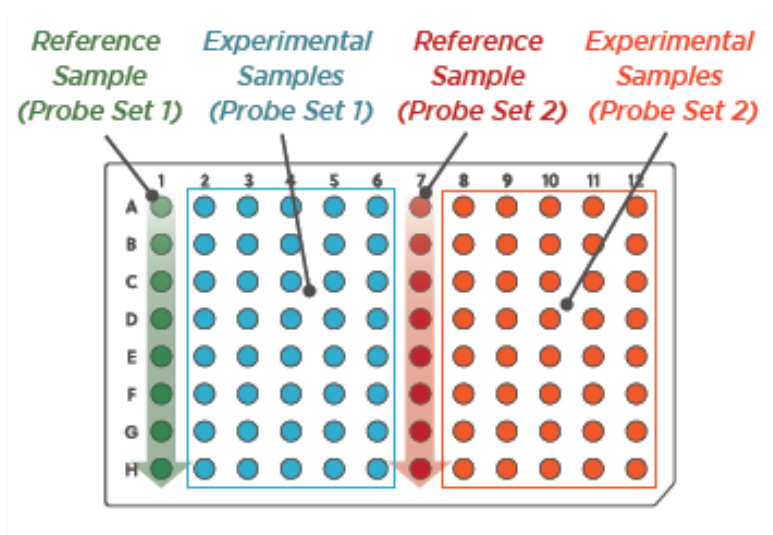

Figure 20: Different Probe Sets, organized down columns
- Run all 96 samples on a plate, but split the plate across multiple experiments/probe sets by columns (Figure 20).
If multiple probe sets are run on the same plate, probe sets should be organized down columns to allow downstream analysis with nSolver software (Figure 20). For more information on setting up plates in this manner, see the *PlexSet Reagents Manual* (MAN-10040).